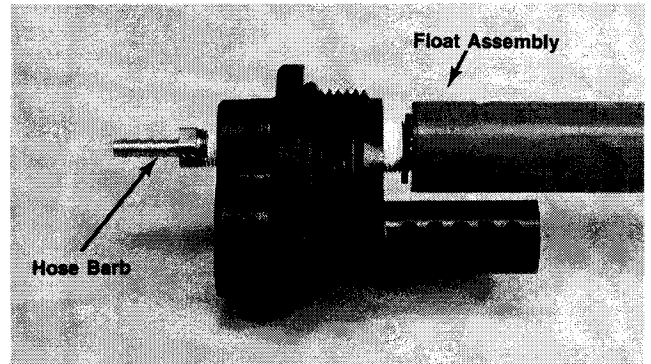

Fig. 9
5. Remove the float assembly from the micro-foam wrap. Place the gasket on the threaded nipple of the float assembly. Screw the float assembly into the tank manifold. Thread tape is not necessary. Also, do not use any lubricants. (Fig. 9) **⚠ CAUTION: Do not over tighten. May result in breakage.**